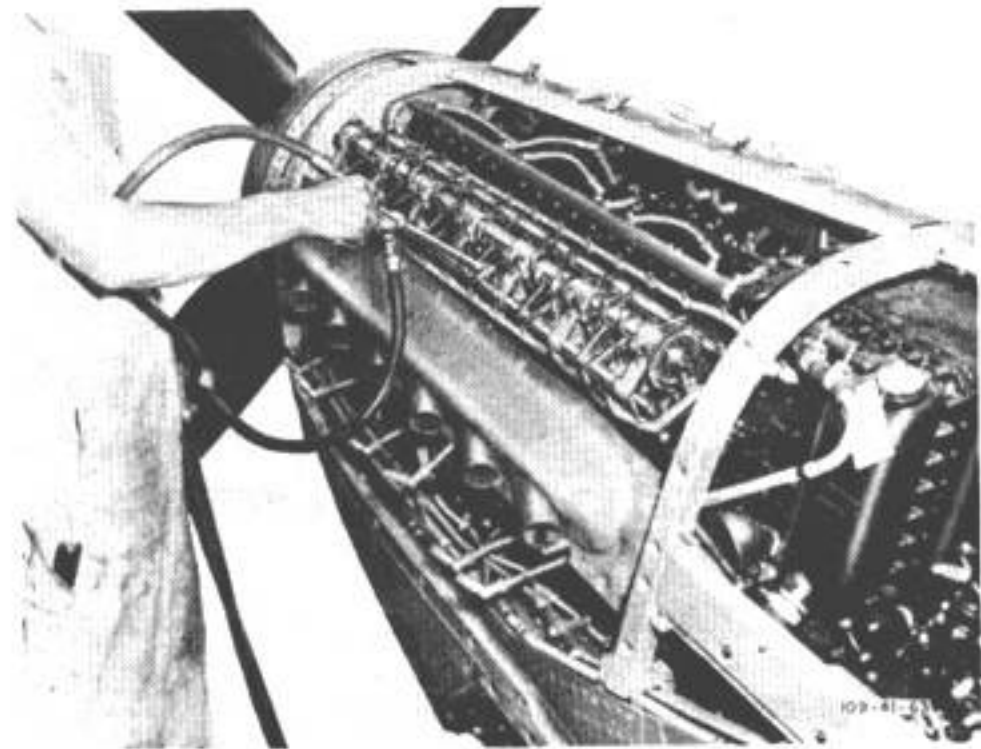

Figure 8—Spraying the Valve Mechanism
11. While rotating the crankshaft, thoroughly spray all parts of the camshaft, drive gear, rocker arms, valve stems and springs (*figure 8*) with corrosion-preventive mixture.